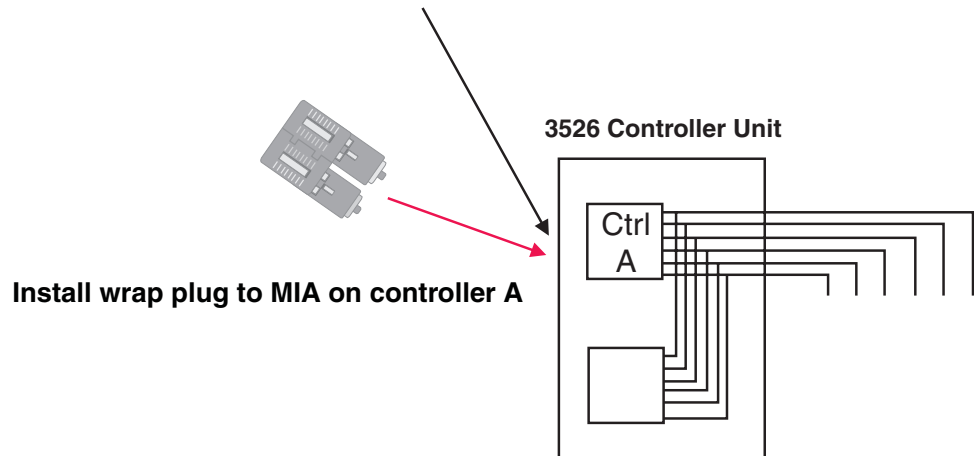

Figure 58. Install wrap plug to MIA on controller A
- a. For a Type 3526 RAID controller, install a wrap plug to the MIA on controller A. See Figure 58.